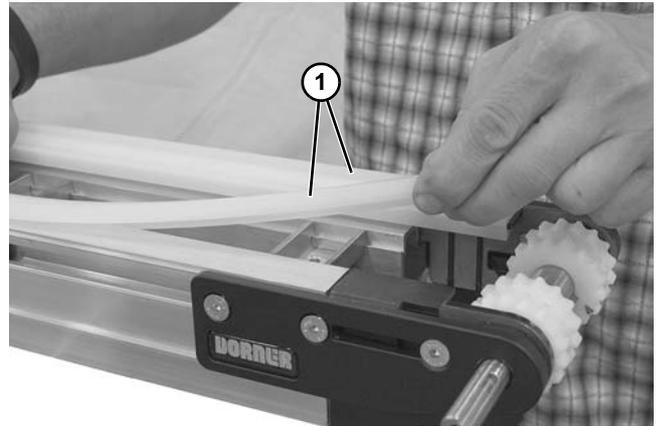

Figure 65
2. Remove upper wear strips (Figure 65, item 1).